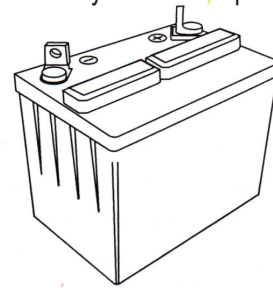

**Figure 10. Transmission Reservoir**
DO NOT overfill the expansion tank. (See figure 10). Note the level marks on the oil reservoir. It is essential to reference the existing oil conditions (A) "cold" or (B) "hot" levels prior to servicing. Overfilling the transmission with oil may cause the seals to rupture, causing mechanical damage.